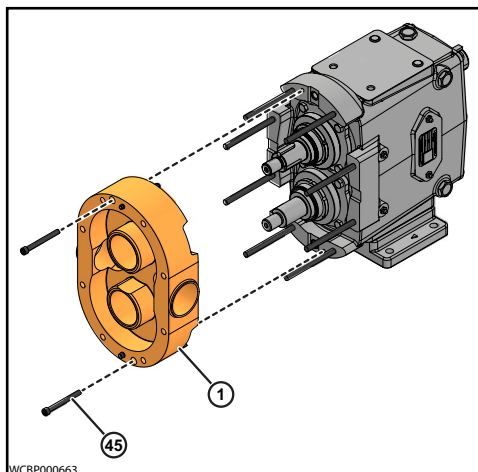

Figure 77 - Install Body
1. Match the large and small dowel pin sizes on the Pump Body (1) with the dowel pin holes in the pump gear case.
2. Install the Body (1) to the Gear case assembly, aligning the body with the body studs. Avoid damaging the seals as the body is drawn over the shafts.
3. Secure the Body (1) to the Gear case using two Cap Screws (45), as shown in Figure 77.